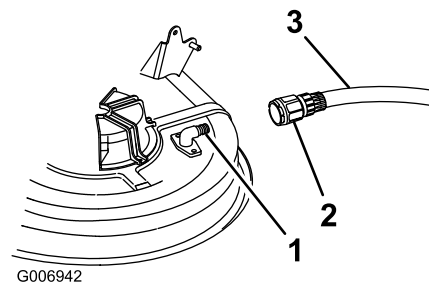

Figure 46
4. Attach the coupling (not included) to the mower washout fitting and turn the water on high (Figure 46).